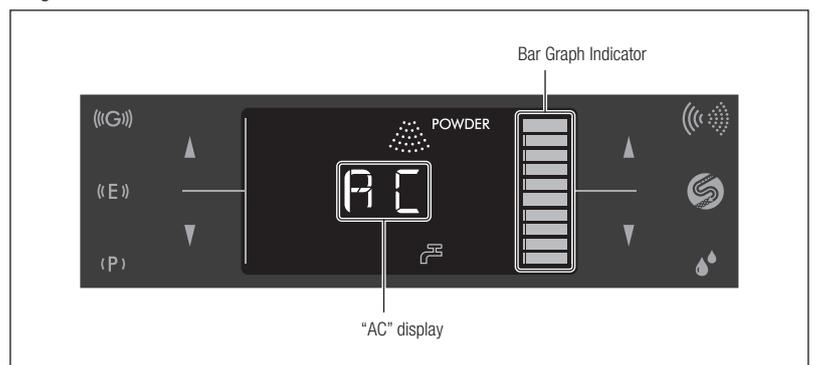

Fig. 38
- 6) Auto-Cleaning takes about 45 seconds. "AC" is displayed on the LCD Panel during Auto-Cleaning and the approximate remaining time is displayed by the Bar Graph Indicator (Fig. 38).